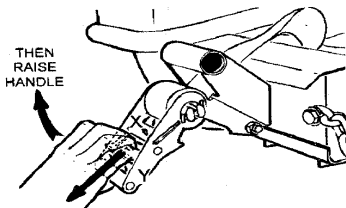

Fig. 6
- Pull on the ratchet release (X) and raise the handle (Y) as far up as you can; (Fig. 6) then pull on the tire strap to unroll adequate slack from the spool. Lay the strap assembly to the outside of the ramp, next to the tow dolly fender.